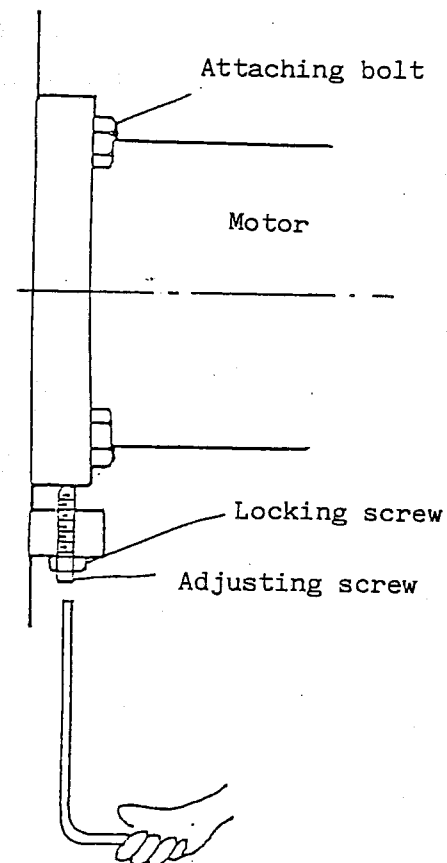

Fig. 10
* If abnormal sound is recognized, loosen the attaching bolt of Fig. 10 and slowly turn adjusting screw clockwise, then it will become normal sound.
3. Retighten the locking screw and the motor attaching bolt shown in Fig. 10.